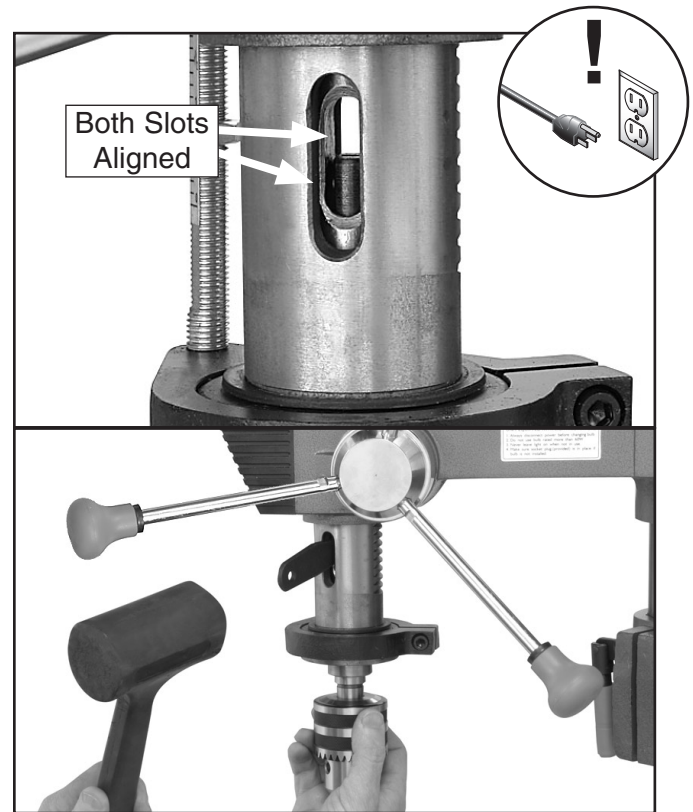

Figure 18. Using drift key to remove arbor.
4. Rotate the spindle until the inner drift key slot is aligned with the outer slot, as shown in **Figure 18**. You will see through the spindle when the slot is properly aligned.
6. Hold the drill chuck with one hand and tap on the drift key with a rubber or wooden mallet (**Figure 18**) until the arbor releases.